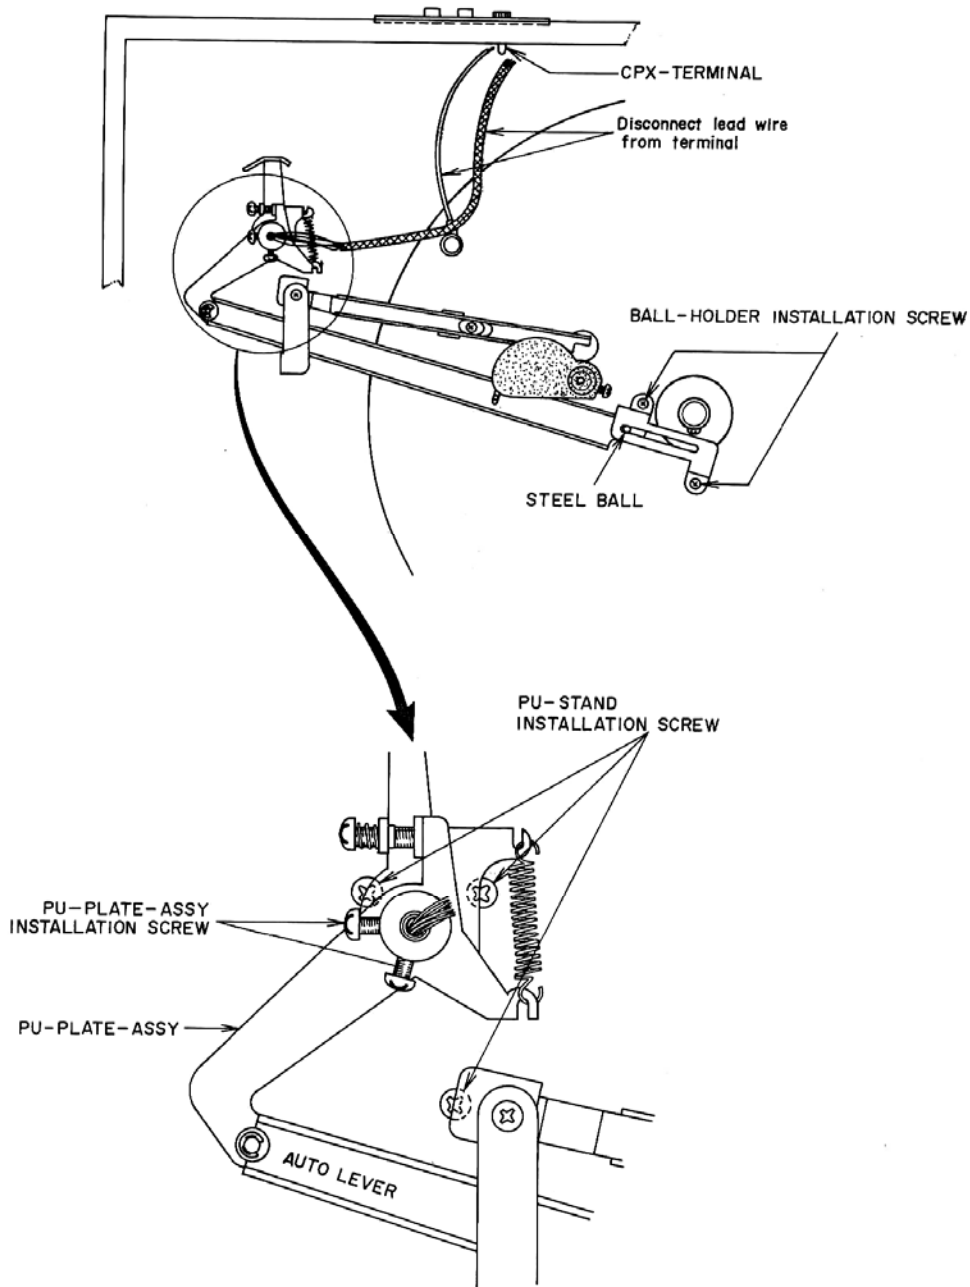

Fig. 3
- 2) Loosen the two installation screws shown in Fig. 3, and remove BALL-HOLDER.